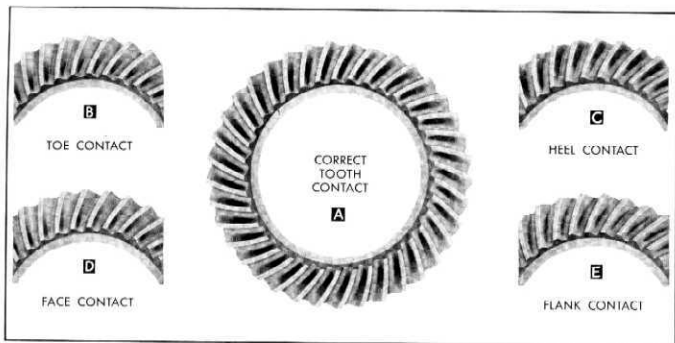

Fig. 20—Gear Tooth Patterns
- Stop the engine and compare the marks produced on the gear teeth with the marks shown in Figure 20. Tooth pattern "A" provides the ideal bearing for quietness and long life.